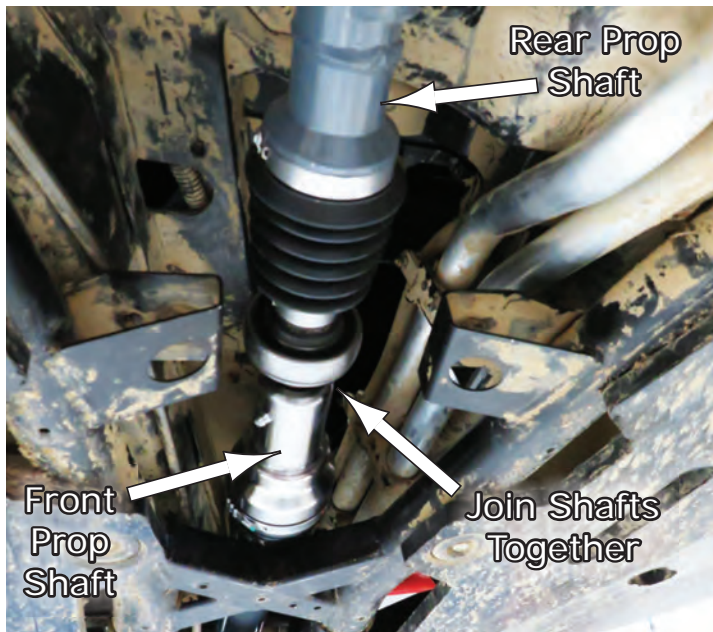

Fig.26a
26. With the **Center Carrier Bearing** installed on the Rear Prop Shaft and with both front and rear shafts in place, join the two shafts together by inserting the **Rear Prop Shaft** into the **Front Shaft** as shown in **Fig.26a** and also **Fig.28c**. Then raise the shafts up and lay the bottom half of the **Carrier Bearing Brace** underneath the bearing as shown in **Fig.26b-c**, seating the bearing into the groove of the bottom half. **Fig.26c** shows the bottom half in place under the bearing.